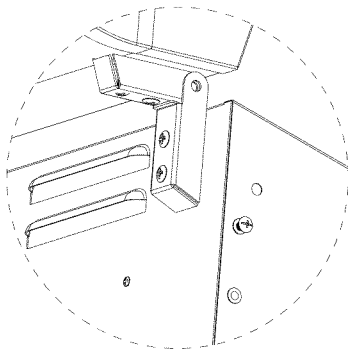

Fig.32A
*Locate:* Side Burner Shelf, (6) M6x12 bolts
Attach (1) M6x12 bolt to the left of the cabinet as shown as Fig. 32A.